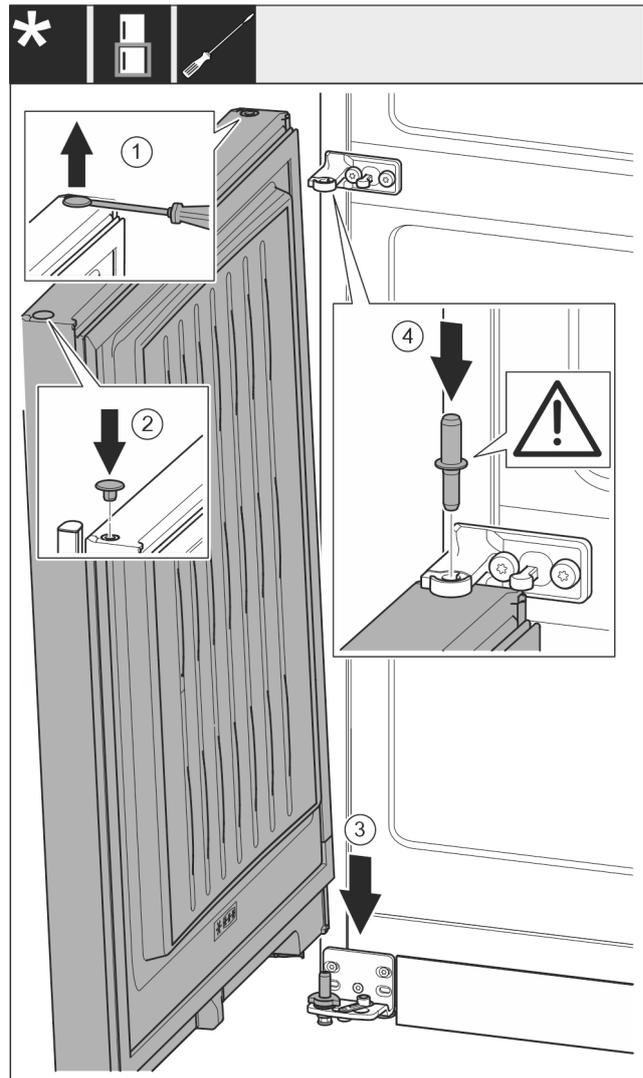

Fig. 23
- ▶ Use a slotted screwdriver to lift the plug Fig. 23 (1) carefully and pull it out.
- ▶ Re-insert the plug Fig. 23 (2) on the other door side.
- ▶ Lower the door Fig. 23 (3) onto the bottom bearing bolt.
- ▶ Insert the centre bearing bolt Fig. 23 (4) through the centre bearing block in the lower door. Ensure that the latching cam is pointing towards the rear.